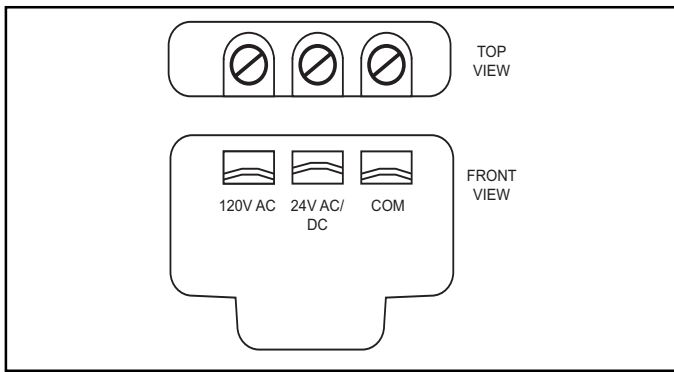

Figure 2. Terminal Block
- Refer to figure 2 and connect as instructed below: